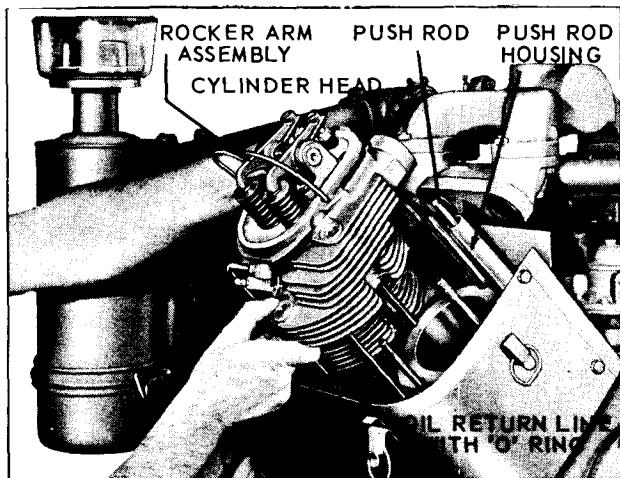
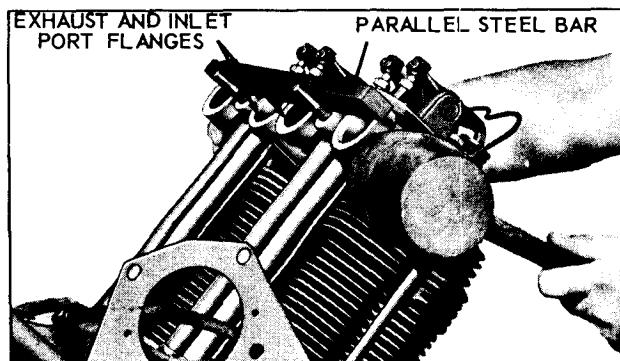

Fig. 34
Fig. 35
### CYLINDER HEAD (Fig. 34, Fig. 35)
Remove rocker arm cover by means of a screw driver wedged under the bail wire. Take off the 4 nuts and washers from cylinder barrel studs. Lift cylinder head and rocker arm assembly off cylinder. The oil drain line will slip out of adapter in crankcase. Pull out push rods and rod housings. See Fig. 34.
**Note:** When reassembling cylinder heads on a complete overhaul, it will be necessary to square up the inlet and exhaust port flanges with those of the manifold. See Fig. 35. Place a parallel steel bar across the ports and tap the heads lightly with a rubber mallet to rotate them until they are square. Turn cylinder head nuts to a snug fit and re-check alignment. Torque cylinder head nuts alternately and in 3 steps. First 10, then 20, and finally **30 foot pounds torque.**